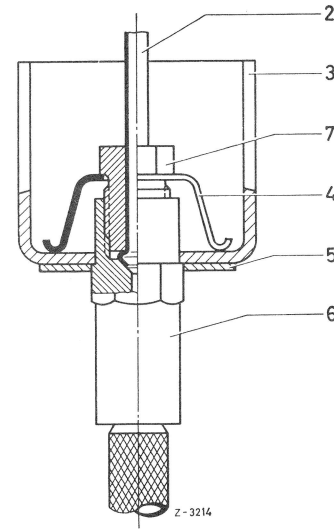

Fig. 8
**7** Connect brake line (2) to brake hose (6), making sure that the brake hose is not twisted (Fig. 8).
**Caution!** Holder (3) is provided with a double hexagon safety plate (5). Insert brake hose (7) into safety plate in such a manner that it will not be obstructed anywhere (Fig. 8).